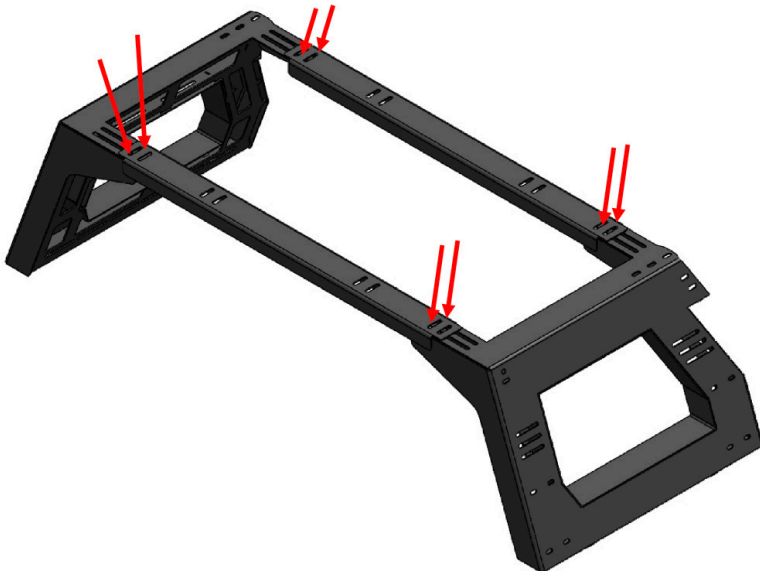

Figure 1
1. Take the two front assemblies (22458 and 22459) along with two of the cross bars (22464) and loosely install them together using eight (8) 3/8" bolts, washers and nuts (50284-HW). Figure 1